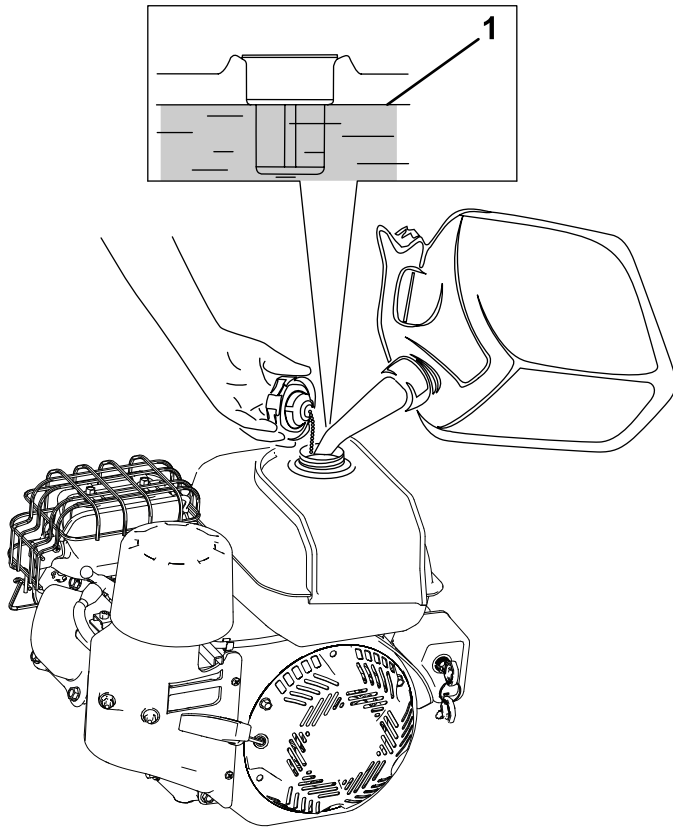

Figure 6
1. Clean around the fuel-tank cap and remove the cap from the tank (Figure 6).